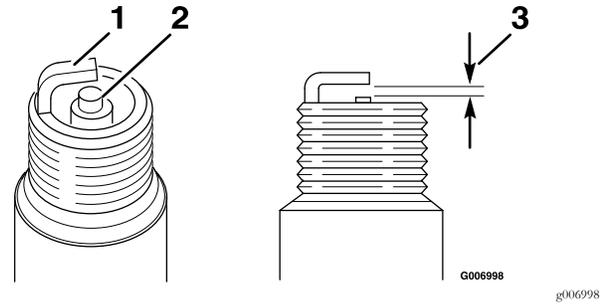

Figure 34
5. Set the gap on the plug to 0.030 inch (0.76 mm) (Figure 34).